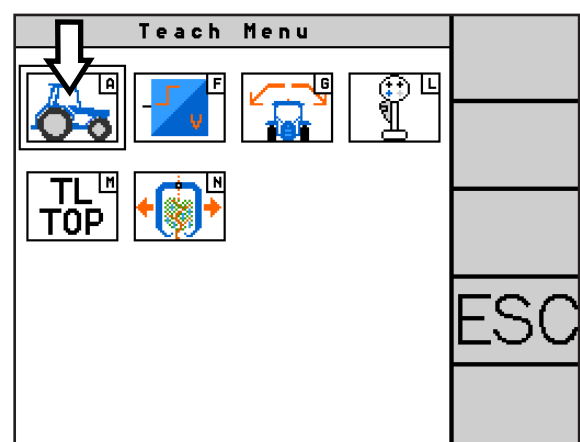

Fig. 50: Accessing the vehicle code teaching
Select the tractor symbol (A) (see Fig. 50) in the teach menu to call up the “Teach vehicle code” menu.